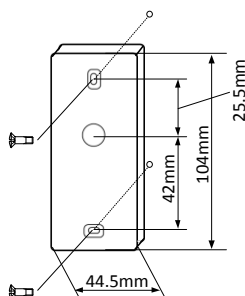

Figure 1. Mounting diagram
2. Mount the reader's box. See Figure 1. Screws are not supplied.